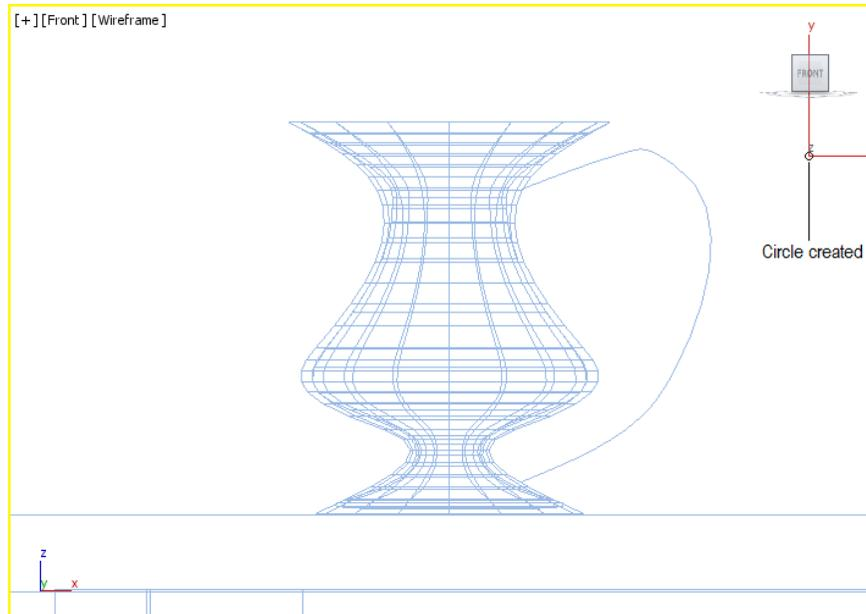

Figure 5-19 The circle created
- Choose **Create > Shapes** in the **Command Panel**. Next, invoke the **Circle** tool. Create a circle anywhere in the viewport, as shown in Figure 5-19. Set the value **0.5** in the **Radius** spinner of the **Parameters** rollout.